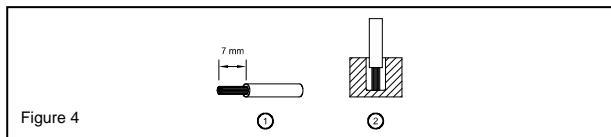

Figure 4
You can use flexible (stranded wire) or solid cables with cross section 3.3-5.3 mm2 (AWG 12-10) and torque of 7.3 Kgf-cm max (6.3 lb in). To secure reliable and shock proof connections, the stripping length should be 7 mm (see Fig. 4 (1)). Please ensure that wires are fully inserted into the connecting terminals as shown in Fig. 4 (2).